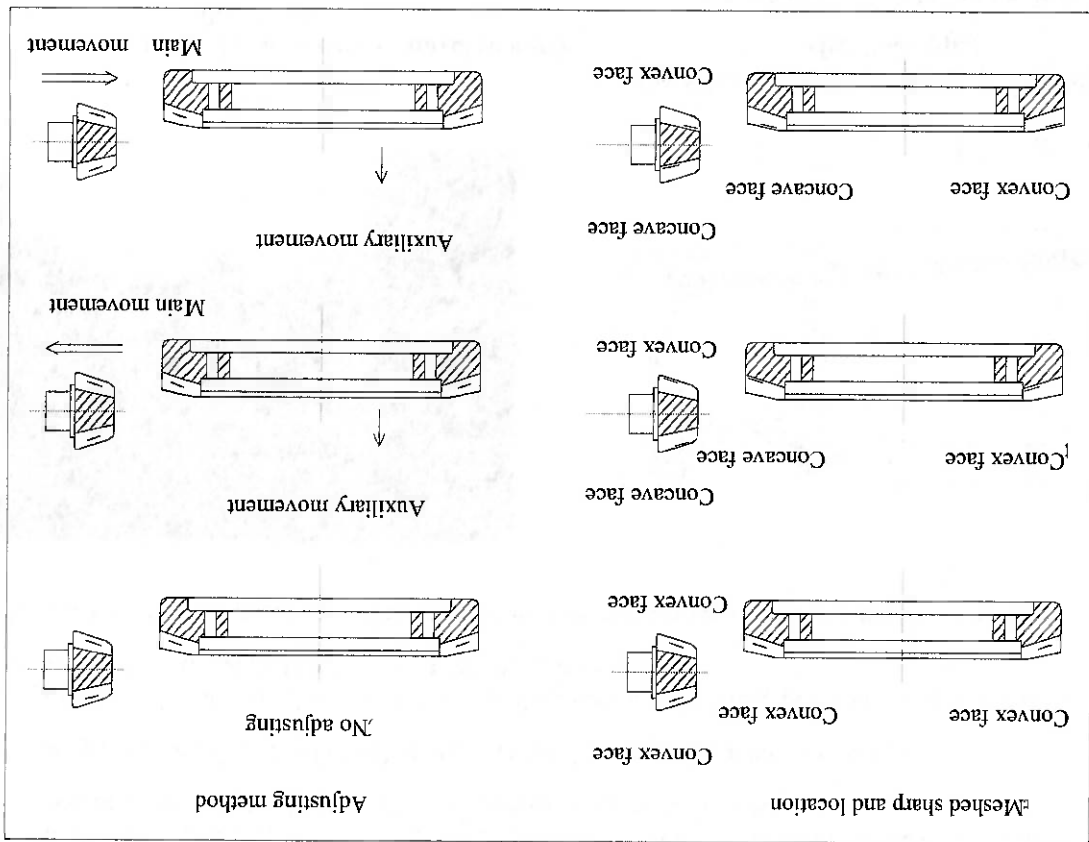

Fig.5-12 Adjustment for gear pair of main drive
- For adjusting method of mesh zone, please see fig. 5-12.